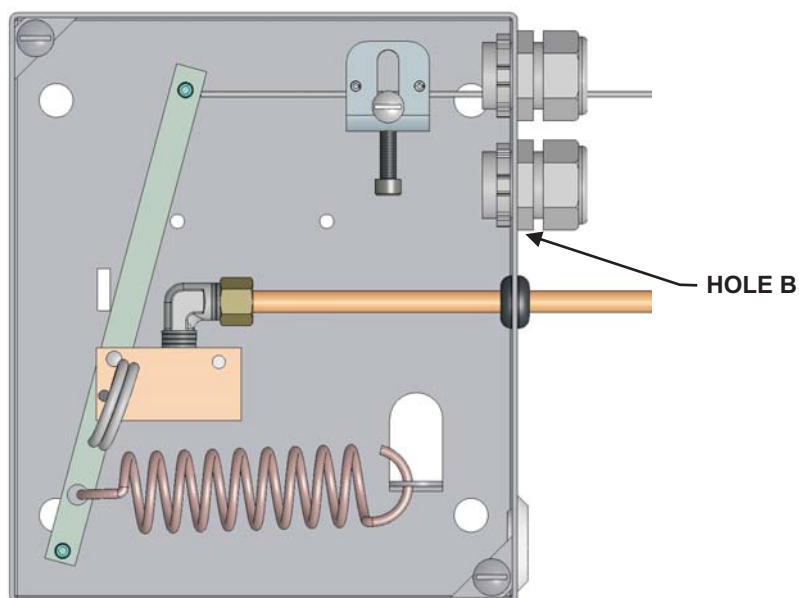

Figure 4-49. Dual SPDT Microswitch Installation
2. Connect 1/2-inch (13 mm) EMT to hole "B" on the side of the KRS-50 Control Box (Figure 4-49).